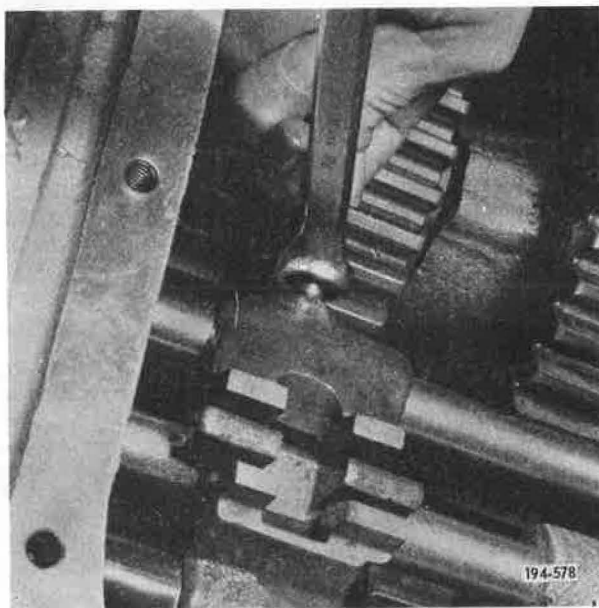

Figure 5-544. Installing Setscrew
17. Install setscrew into fourth/fifth speed shift fork, and tighten to recommended torque. See Figure 5-544. Refer to Torque and Tolerance Table, Item 8.